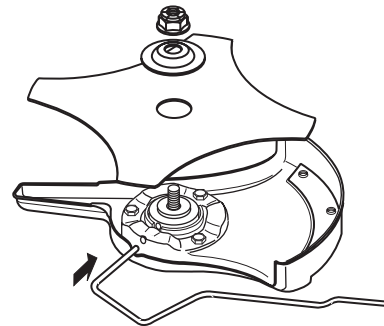

Figure 4
4. While holding the locking rod in place, put the blade on the output shaft bushing (Fig. 4).
5. Place the blade retainer on the output shaft with the flat surface against the blade (Fig. 4).
6. Screw the nut onto the output shaft (Fig. 4).